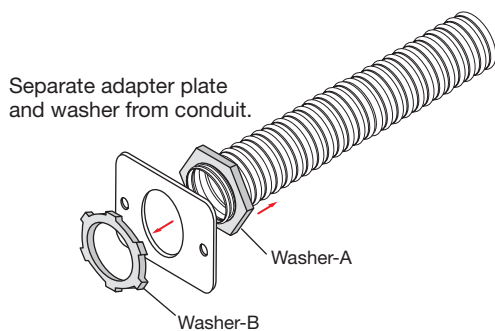

Figure 11. Remove the Existing Adapter Plate
6. Remove the washer at the end of the conduit (washer-B in figure 11) and remove the conduit adapter plate that ships with the kit.